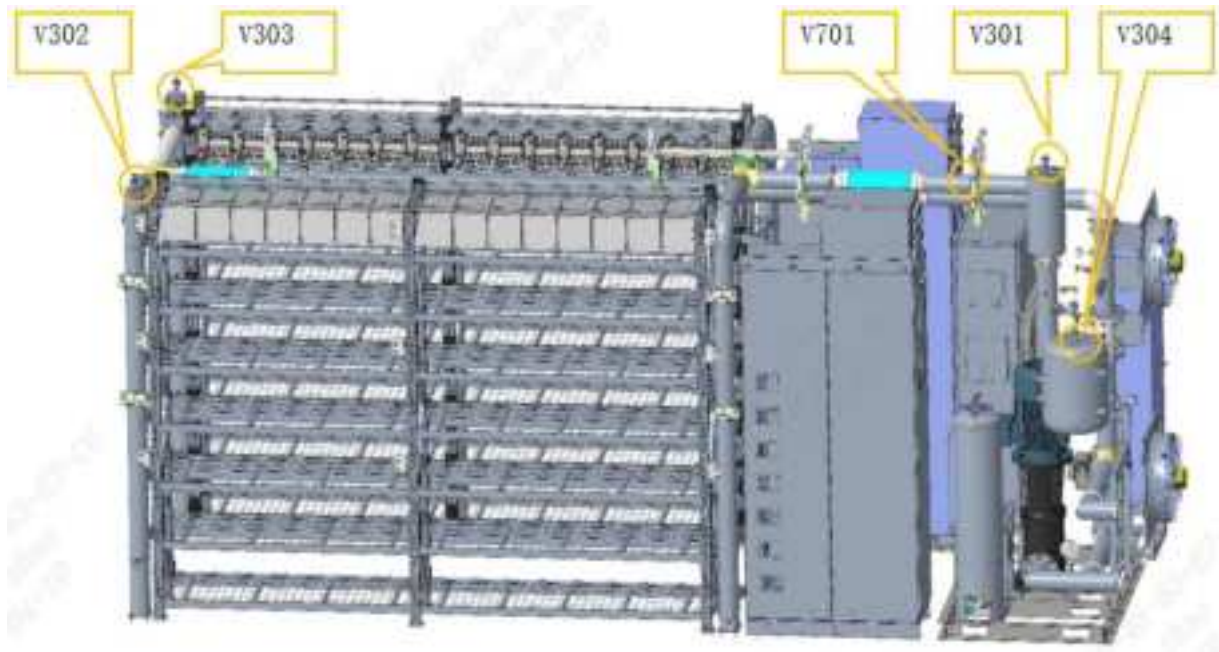

Figure 7-3 Location of the exhaust valve in container system
- c) Check if all the plugs on the automatic exhaust valves on the internal and external connecting pipelines of the container are open (see Figure 7-3 and Figure 7-7 Schematic diagram of valve opening and closing